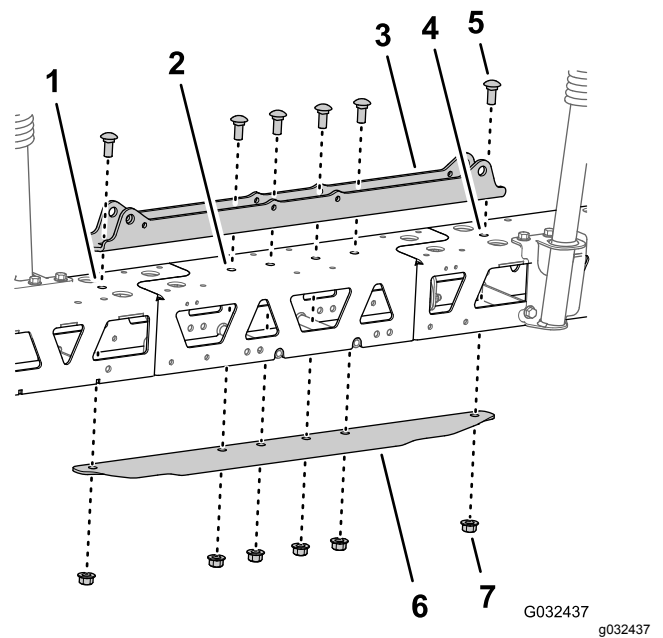

Figure 55
- Align the holes in the cylinder mount with the holes at the centerline of the truss frame and center-boom extension (Figure 55).
- Insert the tie plate into the truss frame and center-boom extension and align the hole in the tie plate with the holes at the centerline of the trusses and boom extension (Figure 55).
- Assemble the cylinder mount, trusses, center-boom extension, and tie plate with the 2 carriage bolt (1/2 x 1-1/4 inches) and 2 flange locknut (1/2 inch) that you removed in step 2 of Separating the Center-Spray Section Trusses (page 28), and the 4 carriage bolt (1/2 x 1-1/4 inches) and 4 flange locknut (1/2 inch) from the GeoLink spray system finishing kit (Figure 55).